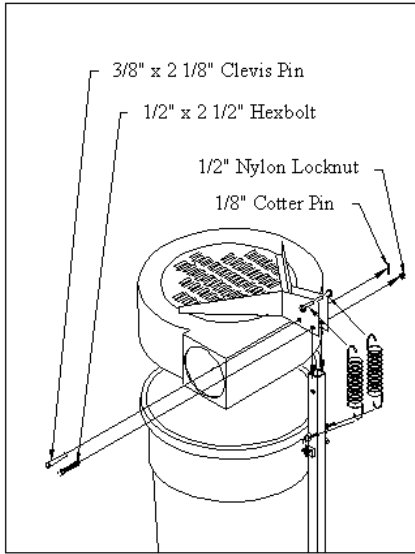

Fig. 9
9. Place molded top assembly on top of container. Align pivot hole on top support to pivot hole on vertical upright. Secure with $\frac{1}{2}$ " x $2\frac{1}{4}$ " bolt and $\frac{1}{2}$ " nylock nut. Tighten until slight drag is felt when pivoting top. Pivot upwards until springs (22) can be attached to spring retainer on top support and onto eyebolts. Lower top assembly and slip clevis pin (29) thru locking pin hole. Secure with $\frac{1}{8}$ " x 1 " cotter key. With container sitting flat on frame, tighten bolts at base of vertical upright. **Fig. 9**